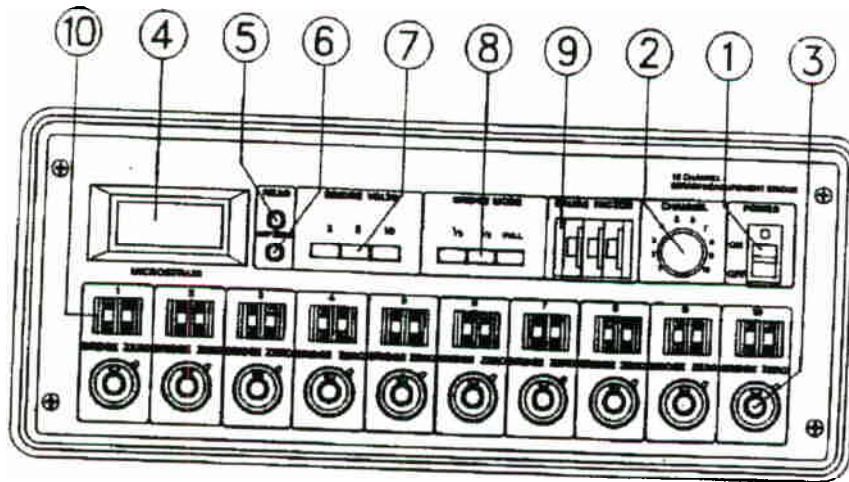

Fig. 3.1. Front
Figure 3.1 shows the front of the instrument. Following the figure is a description of each part of the strain indicator.
5. Select the channel desired using the channel selector knob (fig. 3.1 #2). Make sure the strain gauge is connected at the rear of the instrument, to the corresponding panel.
Set front panel switch fig. 3.1 #5 to Amp Zero then set and adjust adjacent zero screw (fig. 3.1 #6) until you see 0000 on the digital display, then set switch to the "Read" position and adjust for zero on the display by using the appropriate Coarse Zero control (fig. 3.1 #10) and the Bridge Zero Knob (fig. 3.1 #3) on the front panel. When you have zeroed the instrument, lock the control in place using the black out knob. If further readings are to be taken at a later date, record the setting of the Bridge Balance Number and the Bridge Zero Dial.